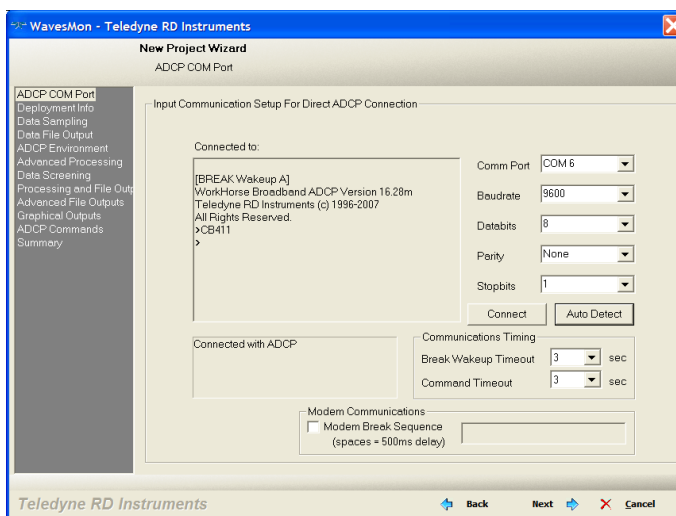

Figure 25. ADCP COM Port Setup
- **Real-time: Direct ADCP Connection** – The ADCP is connected to the computer (see Figure 25).